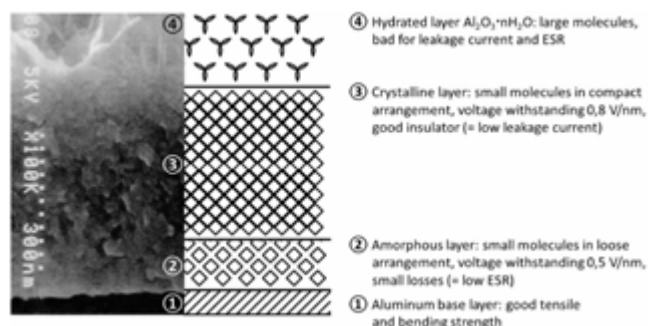

Figure 3: Layer structure of the alumina dielectric of a high-voltage electrolytic capacitor (left: electron micrograph, right: schematic representation)
Figure 3 shows the layer structure of the dielectric in cross section. The aluminum foil ① is first followed by a layer of amorphous aluminum oxide ②, followed by a crystalline ③ and finally a hydrated layer ④. One goal in the development of new anode films is a thinner hydrate layer with a thicker amorphous layer. As a result, Jianghai's novel anode films have higher current carrying capacities and lower